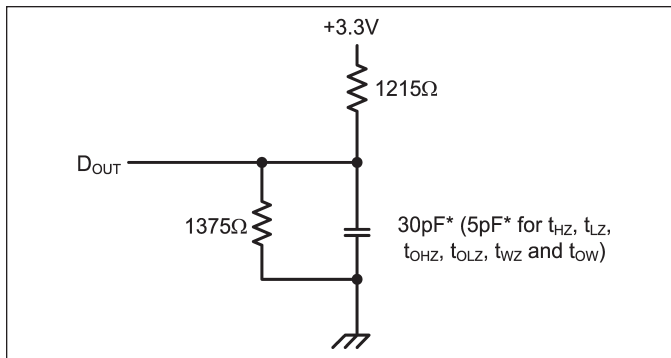

Figure 1. Output Load
- Transition is measured ± 200 mV from steady state voltage prior to change, with loading as specified in Figure 1. This parameter is sampled and not 100% tested.
Output Load	See Fig. 1 and 2